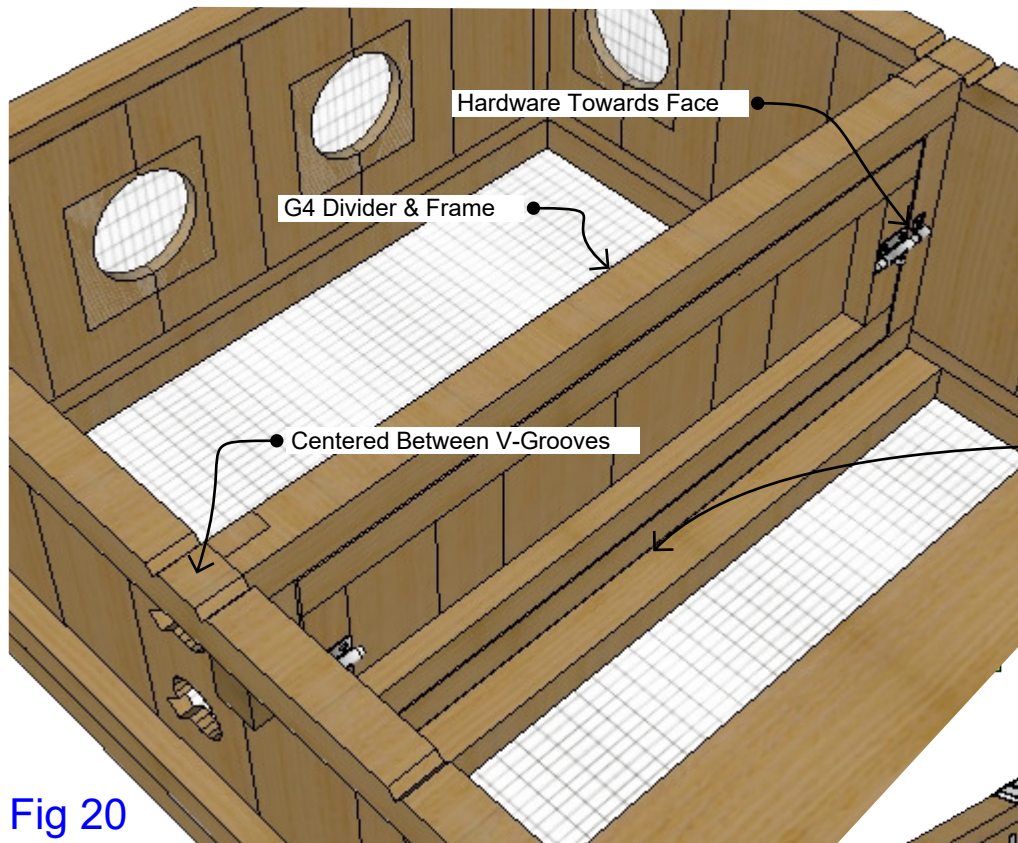

Fig 20
20.1 Install Divider - Using E1 Brown Screws install the G4 Divider as indicated in Fig 20. Stand the box up on its side and drive E1 Screws through the bottom into the Divider Frame as indicated in Fig 20a.